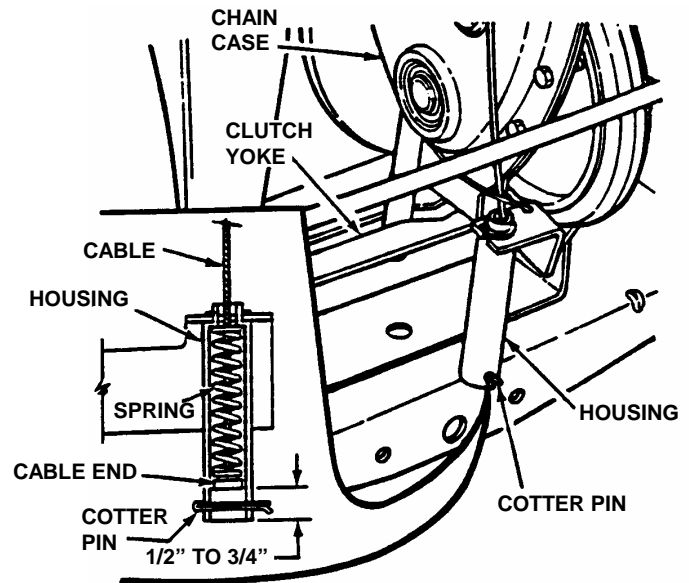

FIGURE 4.9
- 3.5.5. Clutch Yoke (See Figure 4.9).
5. Measure the distance between end of clutch/brake cable and bottom of housing. Measurement should be no less than 1/2" and no greater than 3/4". See Figure 4.9.
7. Adjust cable up or down using the jam-nuts to obtain a distance of 1/2" to 3/4" between end of clutch/brake cable (adjustment shown in inset of Figure 4.9) and bottom of housing. See Figure 4.9.
5. Move transmission shift lever to the neutral (N) position.
6. Rotate clutch yoke (clutch yoke shown in Figure 4.9) out with your hand and work belt between drive disc and rubber driven disc.